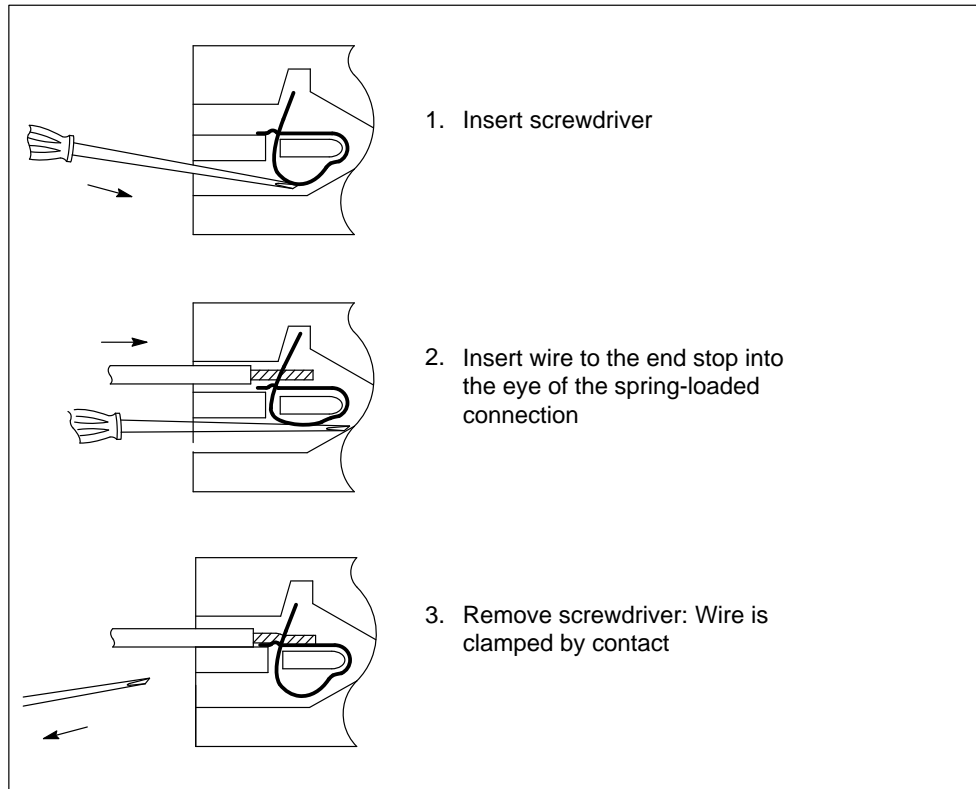

Figure 8-4 Principle of Spring-Loaded Connections
1. Use a screwdriver to press the spring-loaded contact in the rectangular opening down and hold it pressed in this position (see Figure 8-4).
Figure 8-4 shows the principle of spring-loaded connections.